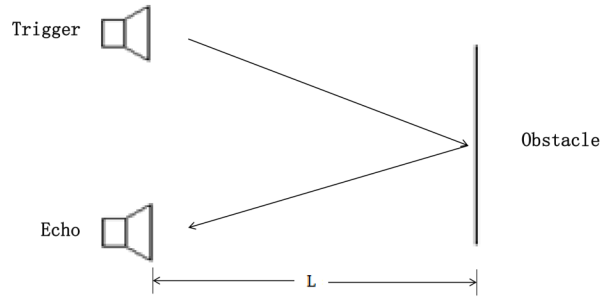

Figure 1: Theory of operation of the ultrasound sensor
The ultrasound sensor measures the distance from any detected object within its range. As shown in Figure 1 the ultrasound sensor detects objects by sending out ultrasound waves and receiving an echo, if an object is detected. The sensor measures the time of flight between transmitting and receiving the signal and calculates the distance according to the following formula (1).